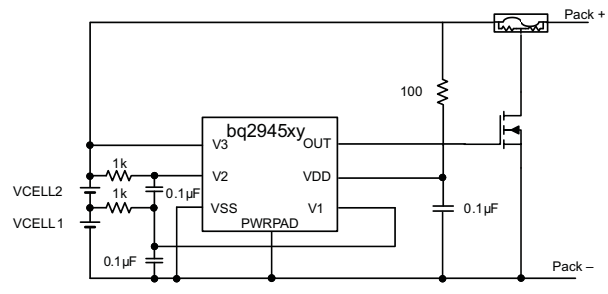

Figure 9. 2-Series Cell Configuration with Internal Fixed Delay
- Changed Timing for Customer Test Mode figure 9